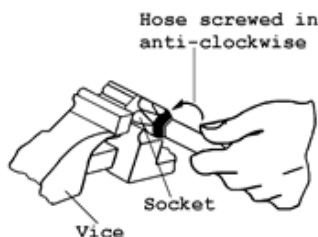

FIG 26.
- Screw the hose anti-clockwise into the socket until it bottoms. (Fig 26)